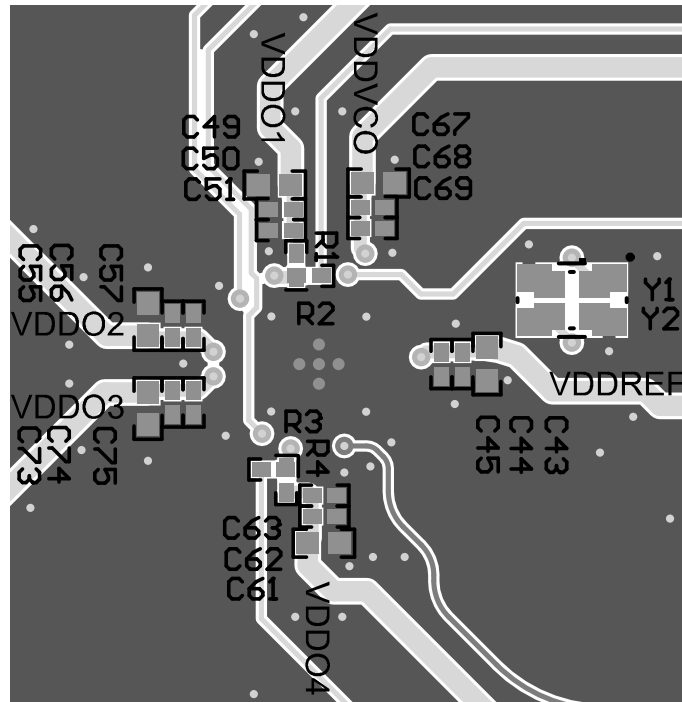

Figure 40. Layout Example, Bottom Layer
- Isolate the crystal area, connect the GND pads of the crystal package and flood the adjacent area. Figure 40 shows a foot print which supports multiple crystal sizes.
- Place decoupling capacitors with small capacitance values very close to the supply pins. Try to place them very close on the same layer or directly on the backside layer. Larger values can be placed more far away. Figure 40 shows three decoupling capacitors close to the device. Ferrite beads are recommended to isolate the different frequency domains and the VDD_VCO domain.